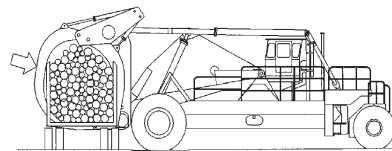

Figure 5-7
4. Securely clamp both holddown arms before the binder chains are removed(See Figure 5-7).